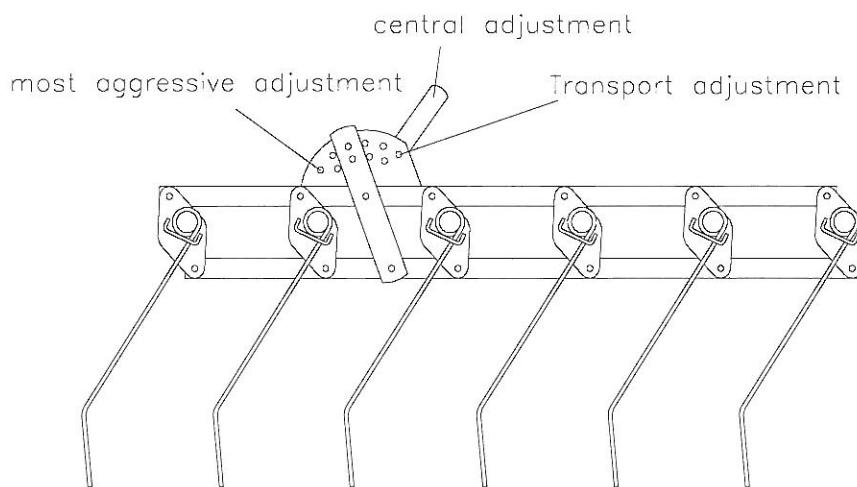

Fig. 3
2. Remove the locking pin Ref. A Fig. 3 at the base of the adjusting handle
3. Operate the adjusting handle Ref. B Fig. 3 to increase / decrease the aggressiveness of the tines, there are ten possible settings. The flatter adjustment will produce less vigorous weeding than the steeper adjustment.